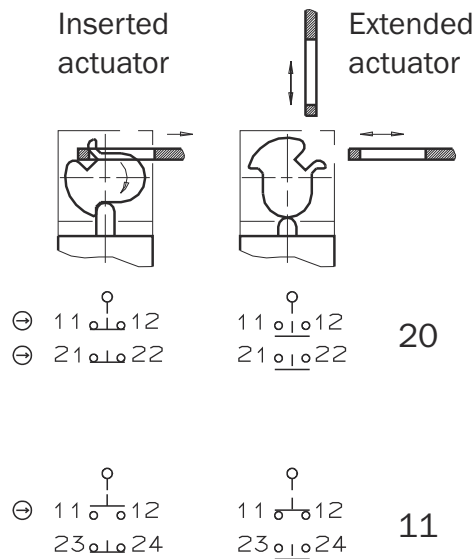

Figure 6: Switching elements and switching functions for variants with M20 cable entry
- ▶ Contact assignments see figure 6, page 10.